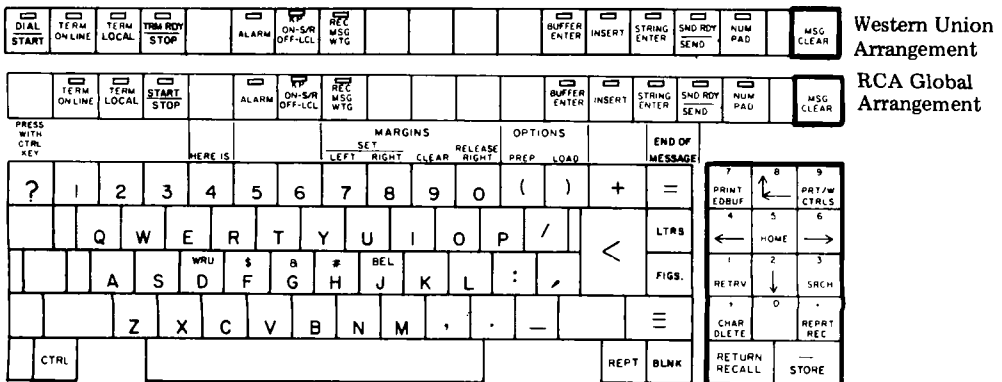

Fig. 17—Keyboard Layout (Pedestal Based)
4. KEYTOP AND KEYSWITCH IDENTIFICATION (Fig. 17, 18, 19 and 20)
## 4. KEYTOP AND KEYSWITCH IDENTIFICATION (Fig. 17, 18, 19 and 20) (Contd)